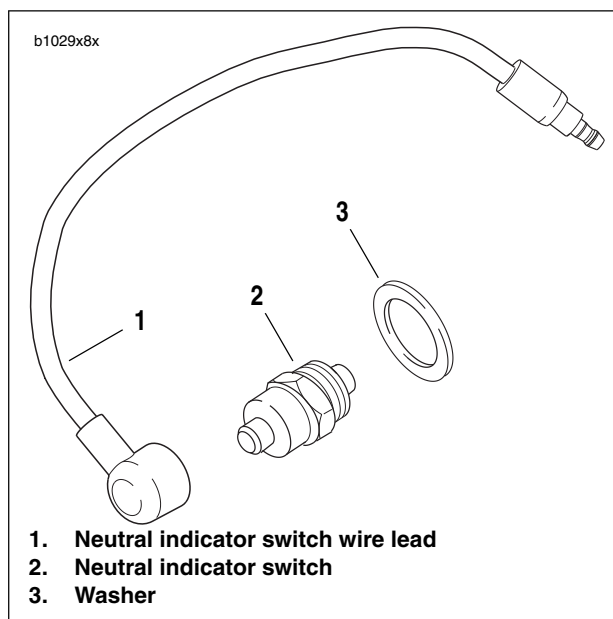

Figure 7-78. Neutral Indicator Switch
3. See Figure 7-78. Remove wire lead (1) from neutral indicator switch (2).
4. Remove neutral indicator switch and washer (3).
- a. Apply a light coating of LOCTITE 243 (blue) to **new** neutral indicator switch (2) threads.
- b. Install washer (3) over neutral indicator switch (2) threads.
- d. Connect wire lead (1) to switch.